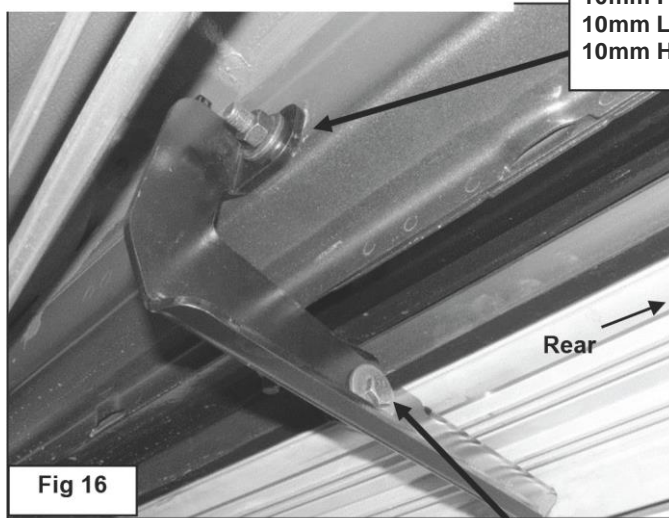

Fig 16
13. Select (1) Center Support Bracket, (**Figure 15A**). Attach the long end of the Support Bracket to the forward Bolt Plate in the frame channel with (1) 10mm Flat Washer, (1) 10mm Lock Washer and (1) 10mm Hex Nut, (**Figures 158 & 17**). Select the passenger side Center Bracket, (**Figure 16**). Attach the Bracket to the Bolt Plate in the back of the frame channel with (1) 10mm Flat Washer, (1) 10mm Lock Washer and (1) 10mm Hex Nut. Bolt the remaining end of the Support Bracket to the front of the Center Bracket with (1) 8mm Hex Bolt, (2) 8mm Flat Washers, (1) 8mm Lock Washer and (1) 8mm Hex Nut, (**Figure 17**). Do not tighten hardware at this time.